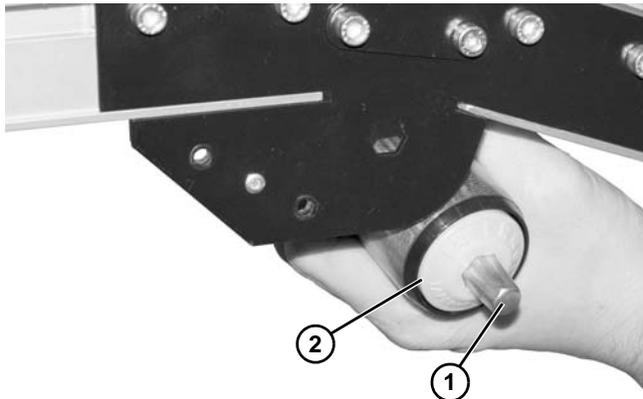

Figure 67
- b. For 5" (127 mm) or wider conveyor, push spring-loaded shaft ends (**Figure 67, item 1**) inward. Remove roller (**Figure 67, item 2**).